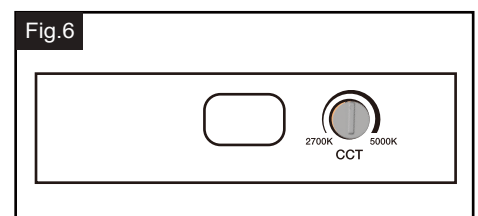

Fig.6
Note: You can adjust the CCT color (2700K~5000K) by using the CCT color (2700K~5000K) knob on the backplate (See Fig.6)
- Note: You can adjust the CCT color (2700K~5000K) by using the CCT color (2700K~5000K) knob on the backplate (See Fig.6)**
Note: You can adjust the CCT color (2700K~5000K) by using the CCT color (2700K ~5000K) knob on the backplate. (See Fig.6)